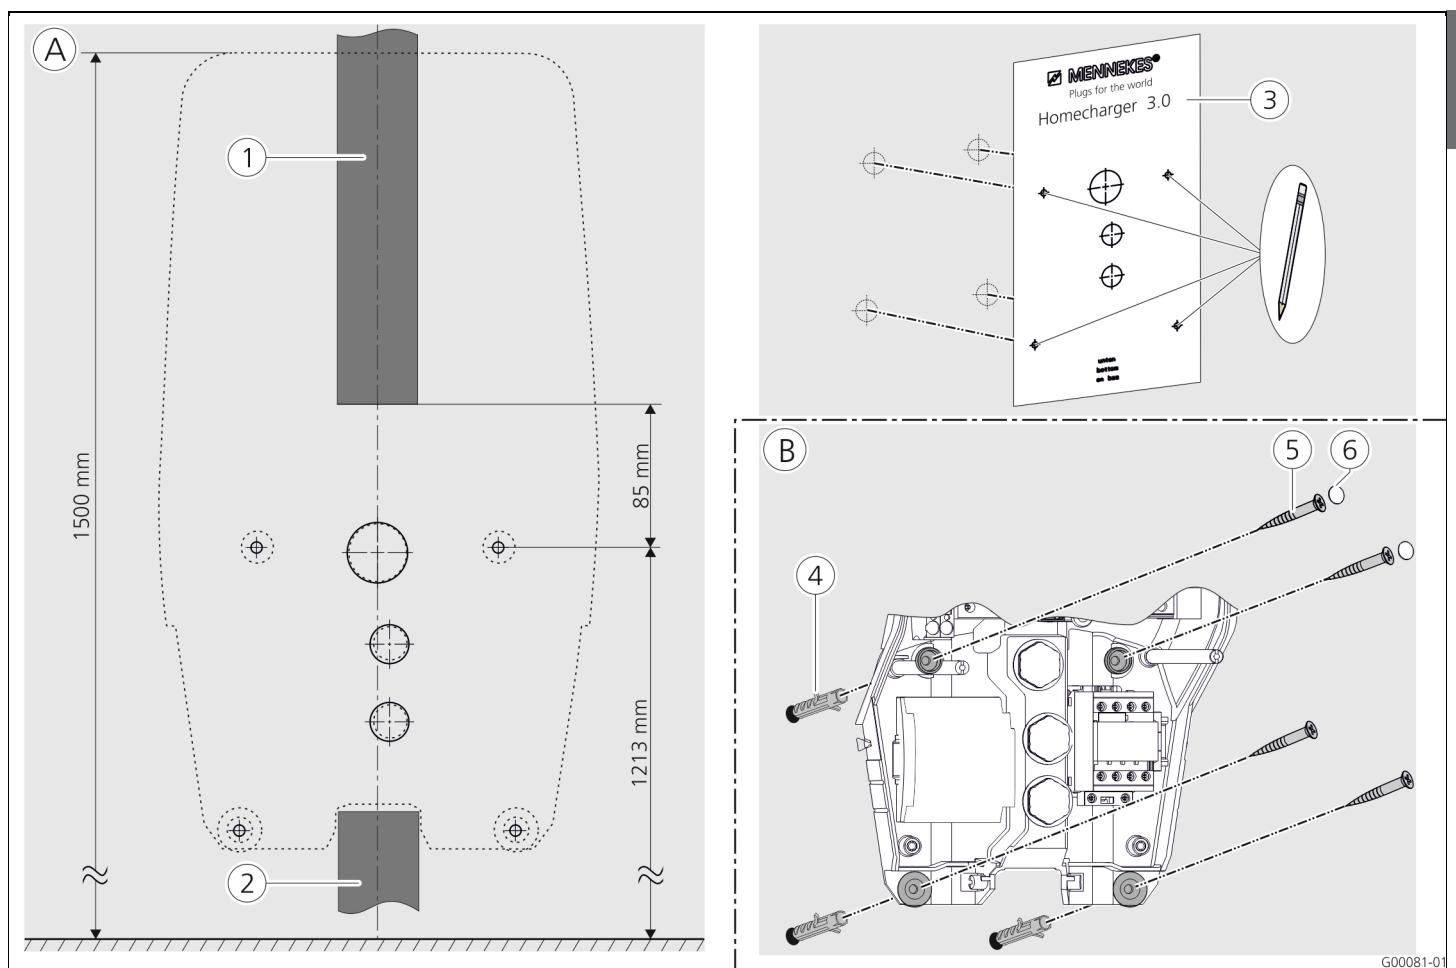

Fig. 13: Wall mounting
- ➔ See also "Fig. 13: Wall mounting" on page 12.
➔ See also "Fig. 13: Wall mounting" on page 12.